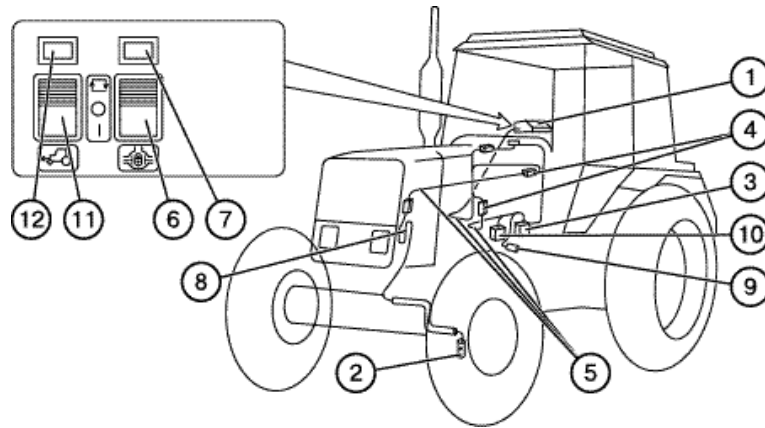

Fig. E-18. Rear axle differential lock and FDA drive control system:
The electro-hydraulic DL control system of the rear axle (Fig. E-18) is composed of a panel (1), turning angle sensor (2) of steering wheels; installed on the left-hand FDA reduction gear, DL control electro-hydraulic distributor (3) located on the right-hand GB cover and coupled through an oil pipeline with the DL clutch, and connecting cables (5) with terminal blocks (4). The system is supplied with power from the on-board electrical circuit via a safety fuse in the fuse box installed in the dashboard. The system is powered after starting the engine. The key (6) for controlling the DL control and DL indicator lamp (7) are installed on the panel (1) face. The latter is located over the right-hand side tractor control panel.